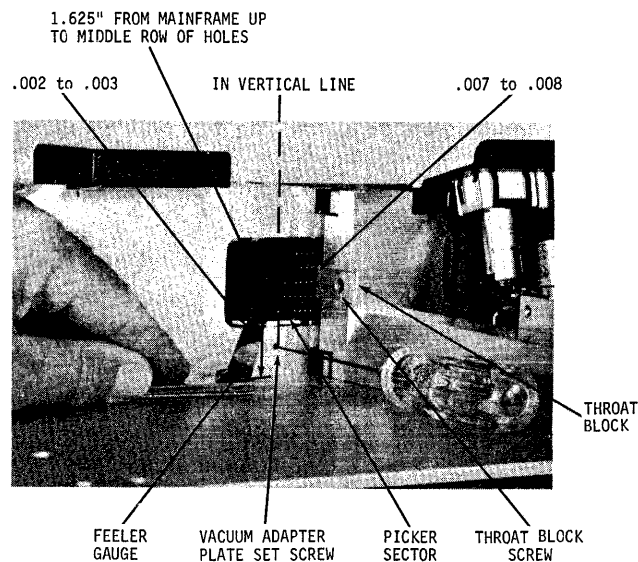

Figure 6-11. Picker Sector Adjustment, Rear View
- a. Check the picker sector height adjustment. Using a 6" steel rule, measure the distance from the top of the mainframe to the center of the middle row of holes in the picker sector. This should be exactly 1-5/8", figure 6-11.
- f. Using a .050 Allen screwdriver, loosen the vacuum adapter plate set screw, figure 6-11.
- i. Check the picker sector rest position. The back edge of the last row of holes on the picker sector should line up with the middle of the vacuum adapter plate set screw hole, figure 6-11. The position is established by placement of the rest stop.
- m. Using a small Phillips screwdriver loosen the screw holding the throat block, figure 6-11.